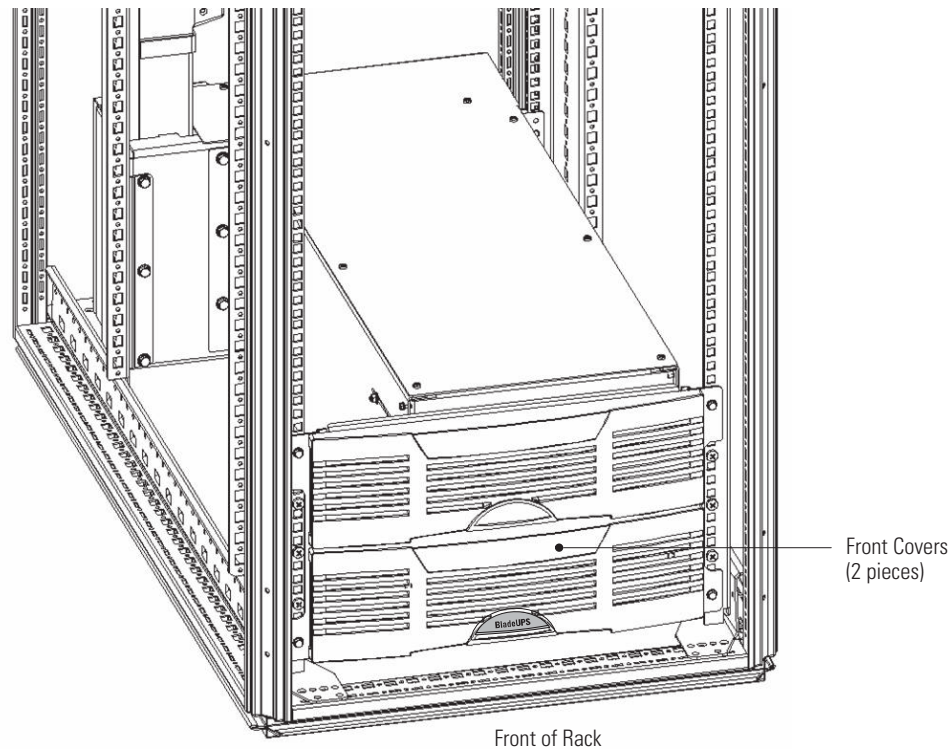

Figure 11. Front Cover Installation
24. Snap the two front covers into place, as shown in Figure 11.
25. Snap the two front covers into place, as shown in Figure 11.